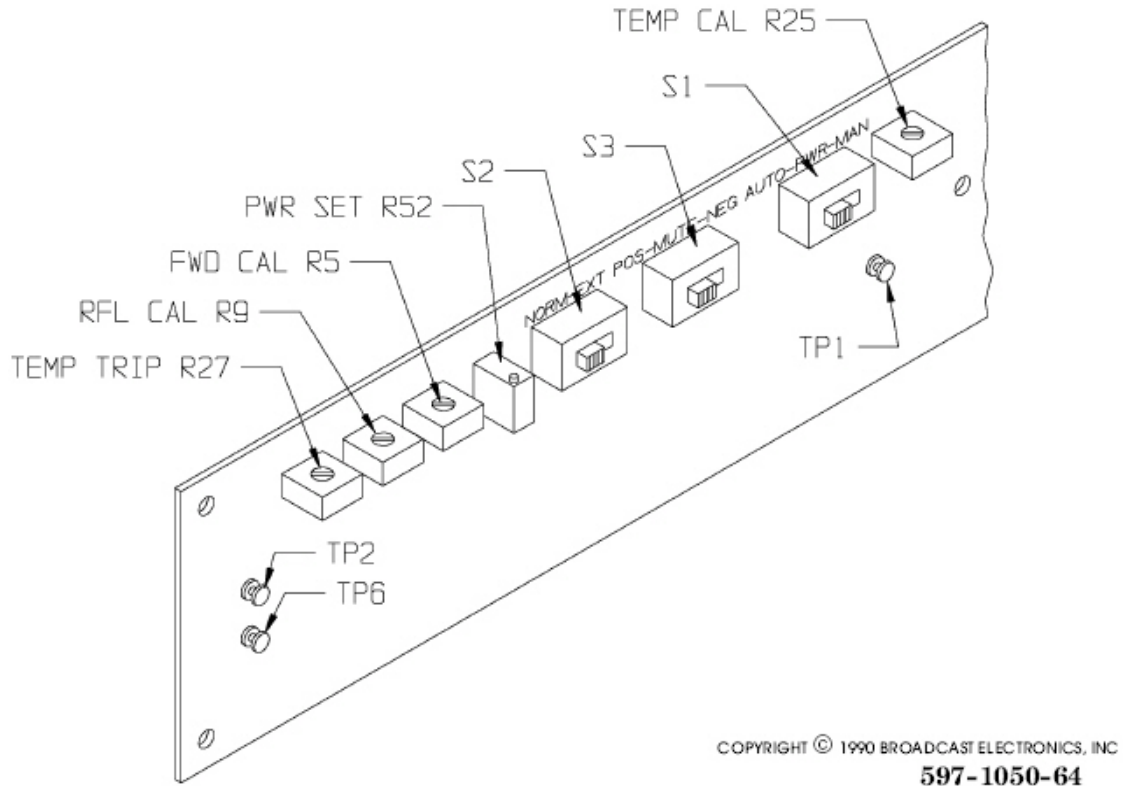

FIGURE 5-2. POWER SUPPLY/CONTROL CIRCUIT BOARD CONTROLS
- f. Refer to the figure 5-2 and adjust PWR SET control R52 for a 40 watt output power indication on the external meter.
- j. Depress the RFL meter function switch. Refer to Figure 5-2 and adjust RFL CAL control R9 until the meter indicates 11% of the value recorded in step 1.
- m. Refer to Figure 5-2 and adjust PWR SET control R52 until the meter indicates the value recorded in step A.
- c. Connect the probe to a voltmeter and record the temperature indication (TI).
- d. Using the following equation and information from step C, calculate and record the voltage (V) $V = TI + 273 / 100$
- e. Refer to Figure 5-2 and connect a voltmeter between TP1 and TP6 (ground).
- b. Remove the top-cover. Refer to Figure 5-2 and connect a voltmeter between TP2 and TP6 (ground).
- d. Refer to Figure 5-2 and adjust R27 until the voltmeter indicates +3.65V DC.